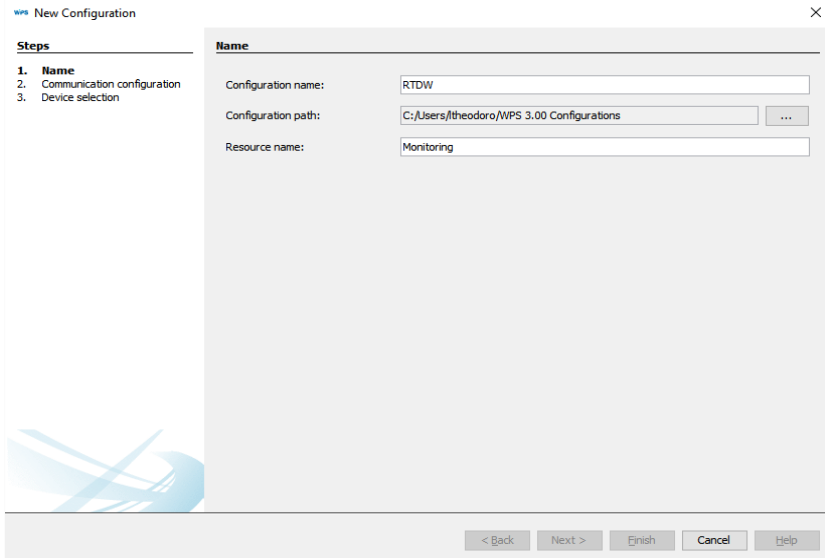

Figure 6.34: Setting the initial parameters
- Figure 6.34 on page 6-42 shows the fields to be filled in for the first step of the settings.